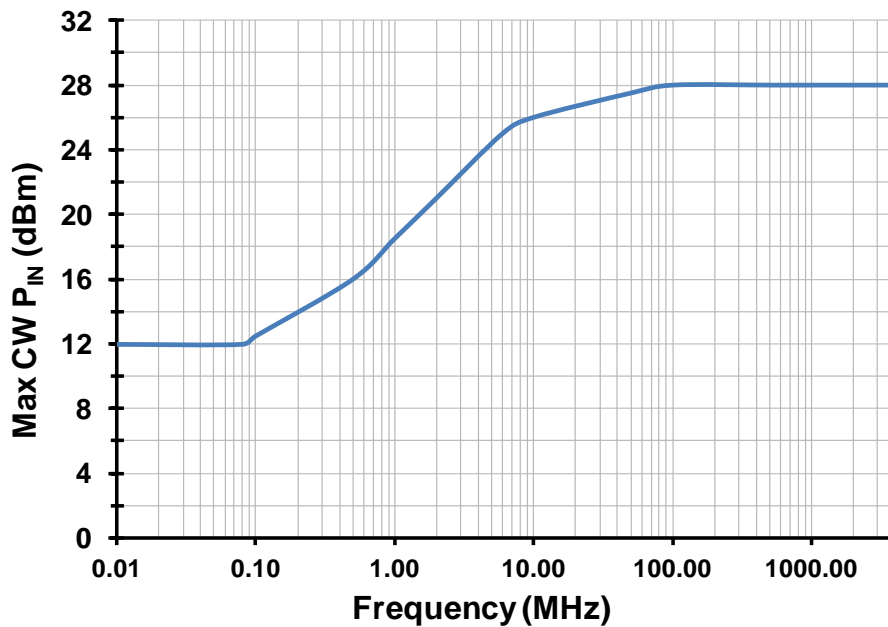

Figure 1. Maximum Operating RF input power vs Input Frequency
- Note 3: The input 0.1dB compression point is used as a linearity figure of merit. The recommended maximum input power is specified as the lesser of the two values from RF CW Power (Figure 1) and the RF Average Power (Recommended Operating Conditions Table).